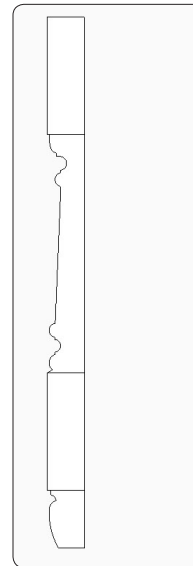
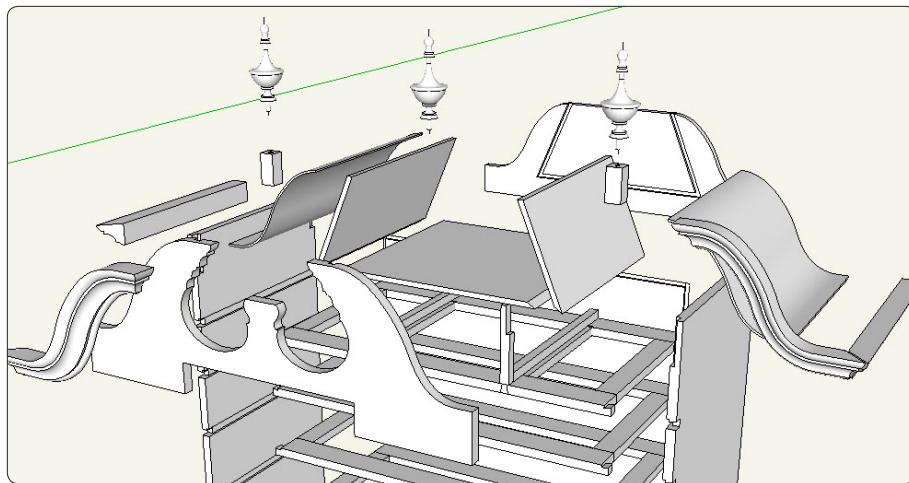

Figure 3. Import a drawing of the leg and use it to create the flat face shown here.
Figure 11. The case for the American highboy and an exploded view of its bonnet.
Step 1 Print out Figure 11 from Chapter 11, scan it, and import it into SketchUp. Scale the image and trace over it to create the flat-face shape of the turned leg, including the square sections (Figure 3).
Here's the process I have used to create a bonnet and curved gooseneck molding for a highboy. Figure 11 shows the highboy case and an exploded view of the bonnet.